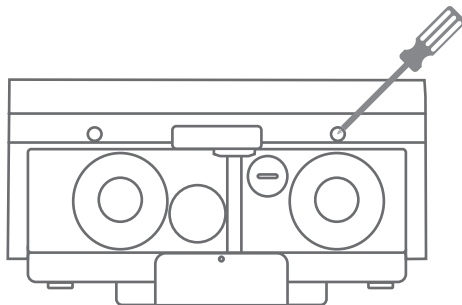

Fig. 4-10
1. Unscrew the two screws on the bottom of the front cover with a Phillips screwdriver. (See Fig. 4-10)